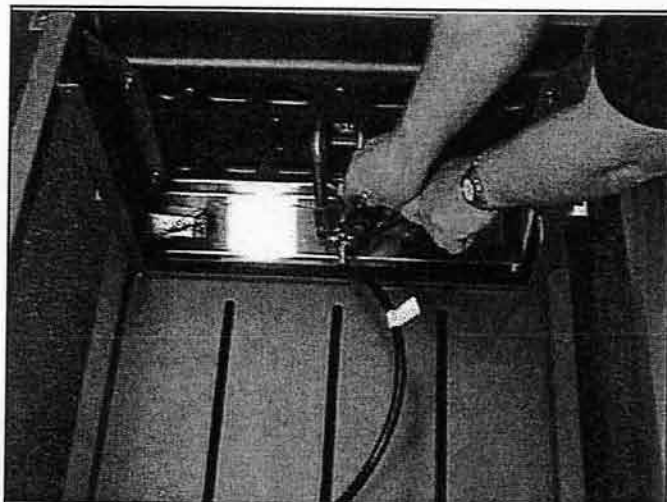

Figure 10 - Gas connection at manifold
- 2) Using two wrenches (5/8 & 3/4), secure manifold from turning and damaging front panel with 5/8 on flat directly above threads. Tighten fitting with 3/4 wrench applying equal force on both wrenches so as to not bend valve assembly (**Figure 10**).